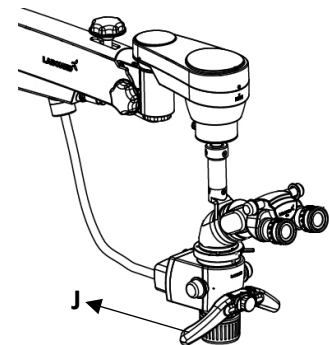

Fig. 46
2. Fine focusing is done through the CMO (E) fine focus ring.
3. Absolute centring of focused area in field of view can be done by manual handles (J). Ref. Fig. 46